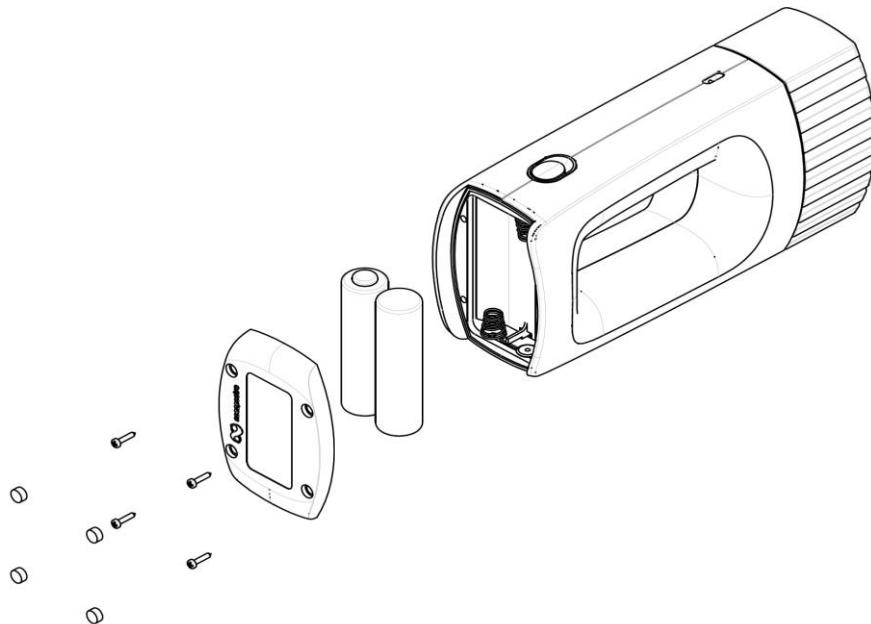

Figure 9: Battery replacement process
- Unscrewing the four screws in the battery cover at the bottom of the Scanner (See Figure 9.)